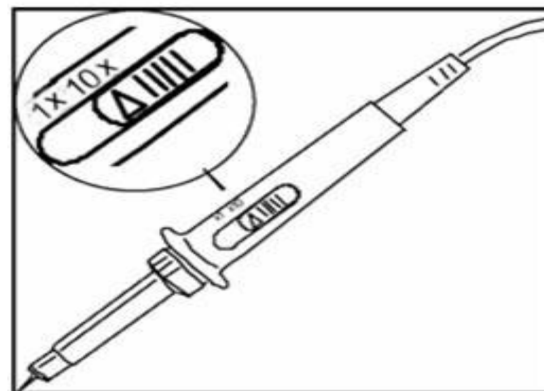

Figure 1-7 Setting the attenuation switch of the oscilloscope probe
- ① Connect the probe of the digital storage oscilloscope to the CH1 input terminal, and set the attenuation switch of the probe to 10X (Figure 1-7).